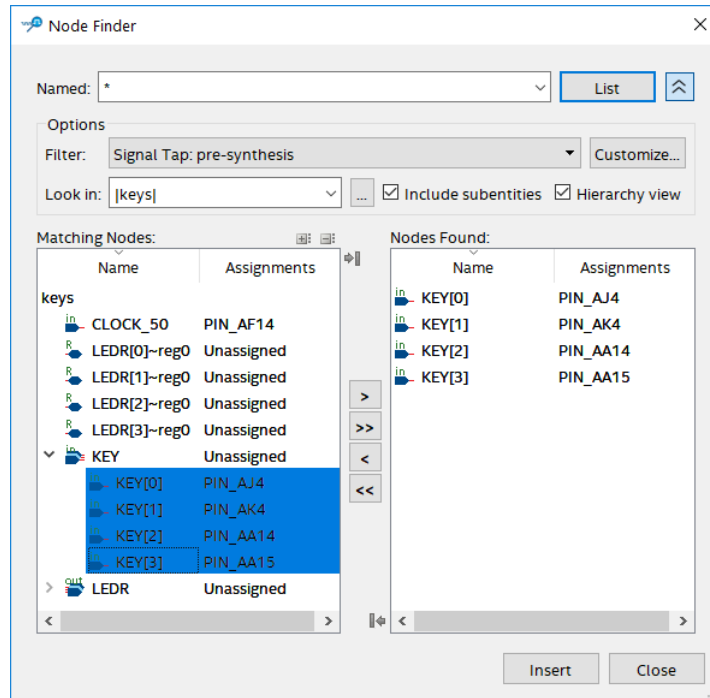

Figure 7. Adding nodes in the Node Finder window on a DE-series board.
3. We now need to add the nodes in the project that we wish to probe. In the Setup tab of the SignalTap window, double-click in the area labeled Double-click to add nodes, bringing up the Node Finder window shown in Figure 7. Click on  or  to show or hide more search options. For the Filter field, select SignalTap: pre-synthesis, and for the Look in field select |keys|. Click List. This will now display all the nodes that can